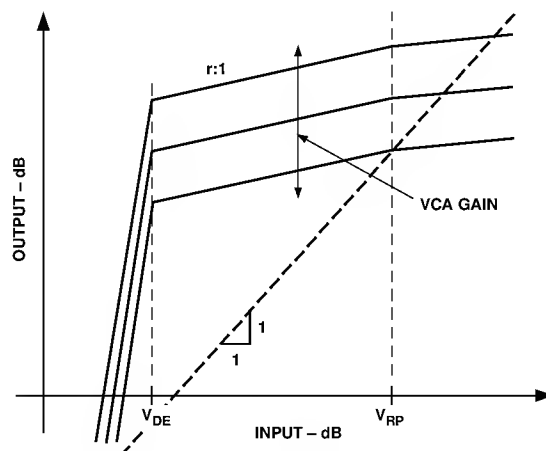

Figure 18. Effect of Varying the VCA Gain Setting
**VCA Gain Setting and Muting.** The maximum gain of the SSM 2166 is set by the GAIN ADJUST pin (Pin 2) via  $R_{GAIN}$ . This resistor, with a range between 1 kΩ and 20 kΩ, will cause the nominal VCA gain to vary from 0 dB to approximately 20 dB, respectively. To set the VCA gain to its maximum can also be achieved by leaving the GAIN ADJUST pin in an OPEN condition (no connect). Figure 18 illustrates the effect on the transfer characteristic by varying this parameter. For low level signal sources, the VCA should be set to maximum gain using a 20 kΩ resistor.